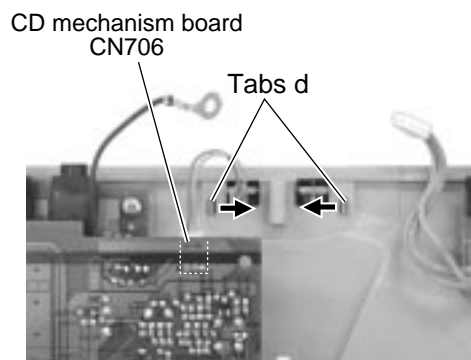

Fig.36
■ Removing the LED board (See Fig.36 and 37)